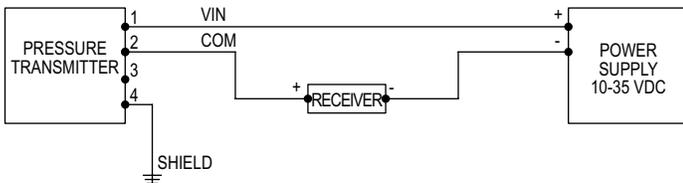
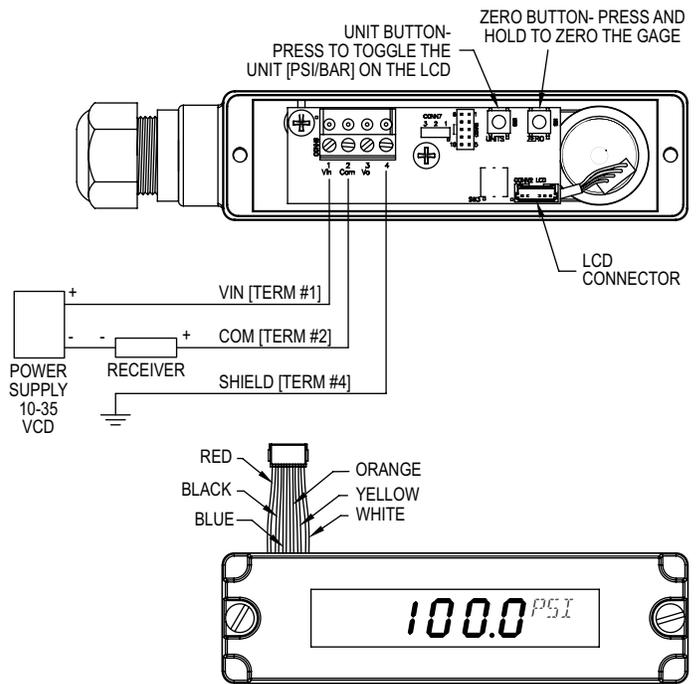

Figure 1: Current output connection
Figure 2: Current output with optional LCD
An external power supply delivering 10-35 VDC with minimum current capability of 40 mA DC (per transmitter) is required to power the control loop. See Figure 1 for connection of the power supply, transmitter, and receiver. The range of appropriate receiver load resistance (RL) for the DC power supply voltage available is expressed by the formula:
Electrical connections to the Series 626/628-CB pressure transmitters are made to the terminal block located inside the housing. Remove the screws and lift off the cover. Lift off the terminal block for wiring. Wire as show in Figure 1 or 2. Use Figure 1 for current output connection. Use Figure 2 for current output with optional LCD display. If ordering pre-wired cable, black wire is negative [-] and red wire is positive [+].